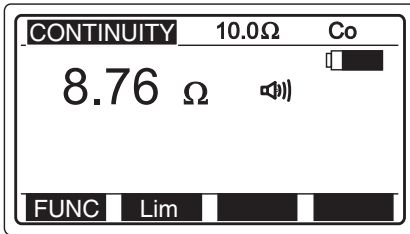

Figure 17: Measurement Value Display
- ▶ Briefly press the key 'START'. The measurement is terminated. The last measurement result remains displayed, please refer to figure 17.